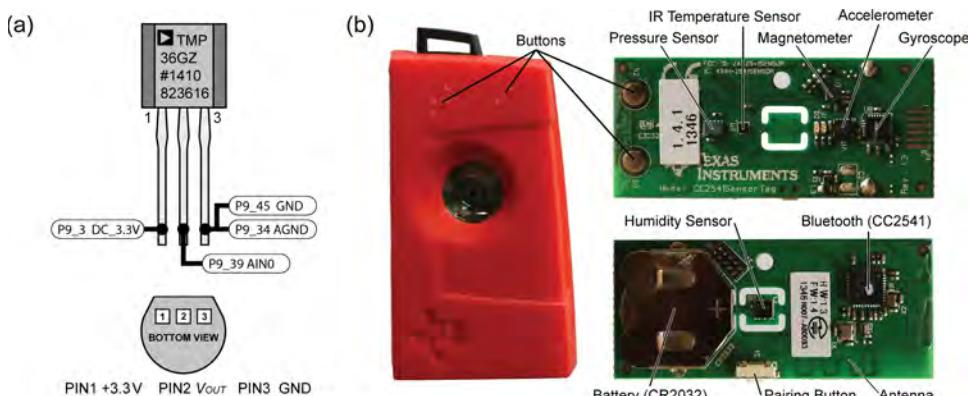

Figure 10-2: (a) The Analog Device TMP36 Temperature Sensor; (b) the Texas Instruments SensorTag
Two new sensors are illustrated in Figure 10-2, the *Analog Devices TMP36* temperature sensor and the *Texas Instruments SensorTag*. The TMP36 is used throughout this chapter, as it has a low cost (\$1–\$2) and is widely available. The SensorTag (~\$25) is also introduced because it demonstrates the capability of Bluetooth 4.0/LE—a low-energy Bluetooth protocol that is ideal for connecting *things* to your BBB.
A wiring configuration for the sensor to the BBB is identified in Figure 10-2(a). To set up and build the example code, follow these steps:
Bluetooth Low Energy (LE) (aka *Bluetooth Smart*) is a technology for wireless personal area network applications, such as home automation, healthcare, and home entertainment. Bluetooth Smart is focused on low-energy applications, while still maintaining the same communications range as regular Bluetooth. The SensorTag, which is illustrated in Figure 10-2(b), has a quiescent current consumption of $8\mu\text{A}$, potentially enabling it to operate on a small CR2032 battery for many months. The SensorTag is a *Bluetooth Smart development kit* that is targeted in particular at smartphone application developers. However, it can also be used by the BBB as a sensor node that can collect data from its environment.